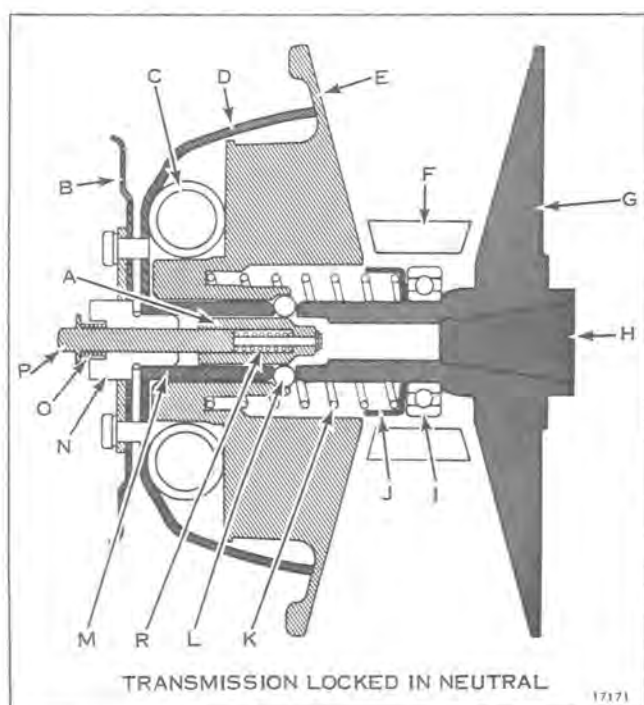
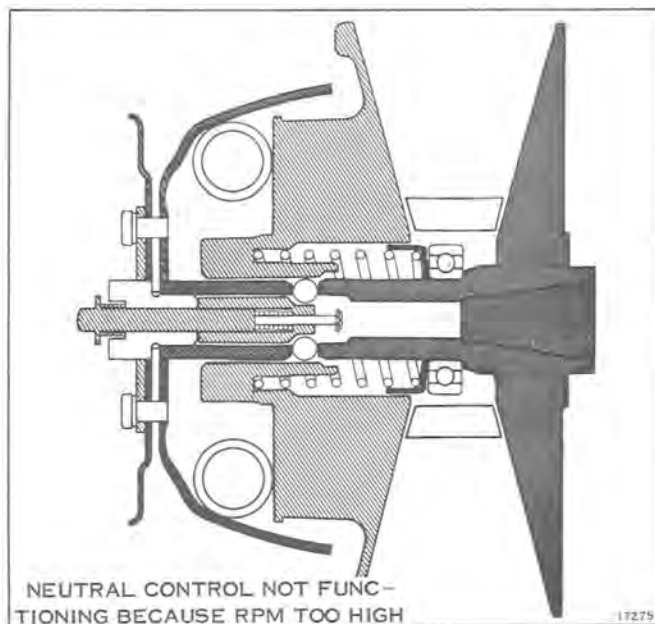

Figure 3-8
Figure 3-10
The primary sheave is centrifugally operated and engages the transmission belt when the engine speed reaches 2500 to 2800 rpm. When the engine is rotating at idle speed or below 2500 to 2800 rpm, the transmission belt rides on a ball bearing between the halves of the primary sheave assembly (see Figure 3-8). The primary sheave assembly halves are separated by a compression spring in the hub of the movable sheave half.
When the engine is running above approximately 2000 rpm, the garter spring will expand by centrifugal effect. See Figure 3-10. The garter spring will then ride up the ramp of the end cap and push the movable sheave toward the fixed sheave. In doing this, the movable sheave has covered the holes in the splined shaft. When the neutral lockout rod (P-Figure 3-8) is now pushed in, the spring loaded plunger (A-Figure 3-8) cannot move in because the moveable sheave now covers the neutral lockout balls. Spring (R-Figure 3-8) will therefore be compressed as shown in Figure 3-10. If the engine speed is now reduced to below 2,000 rpm, the garter spring will close and allow the movable half of the sheave to move away from the fixed sheave. Spring (R) will then push the plunger inward. The neutral lockout balls will then move outward, through the splined shaft. The movable sheave will now be locked in the neutral position. See Figure 3-8.